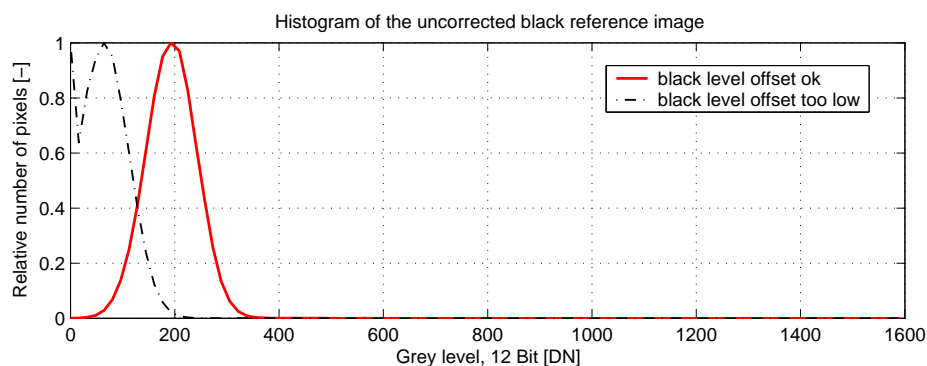

Figure 4.33: Histogram of a proper black reference image for offset correction
- It may be necessary to adjust the black level offset of the camera. In the histogram of the black reference image, ideally there are no grey levels at value 0 DN after adjustment of the black level offset. All pixels that are saturated black (0 DN) will not be properly corrected (see Fig. 4.33). The peak in the histogram should be well below the hot pixel threshold of 1008 DN @ 12 bit.